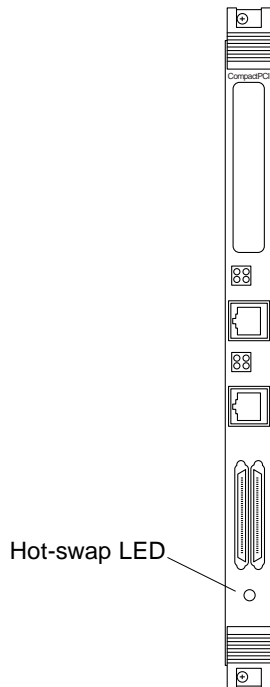

FIGURE 2-15 Location of the Hot-Swap LED on the Front Card
1. Locate the hot-swap LED on the front card (FIGURE 2-15).
9. During the power-on sequence, watch the hot-swap LED on the adapter's front card (FIGURE 2-15).